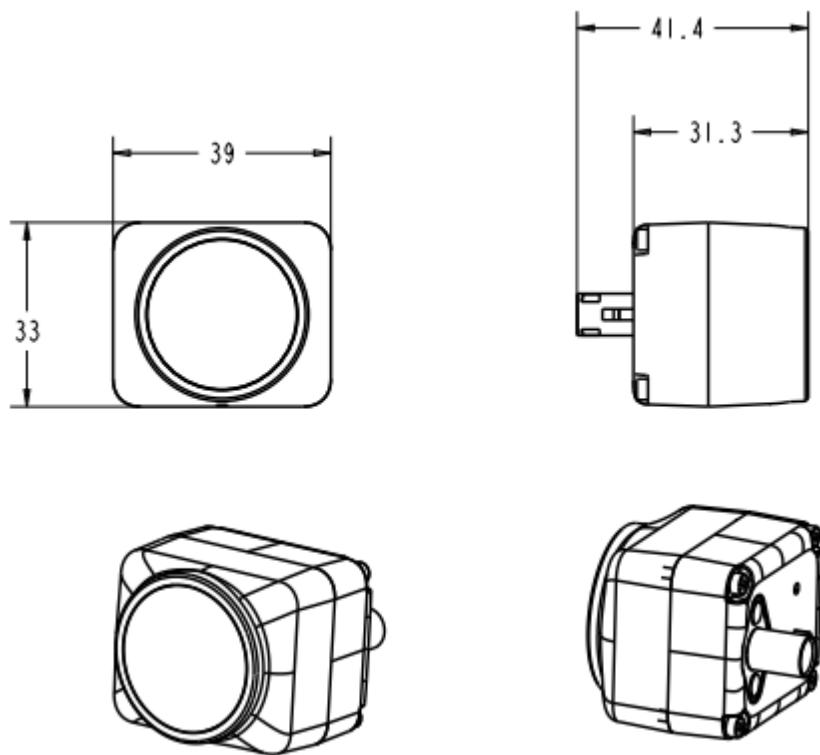

Figure 1-1 Appearance of Pilot256RFF70G
- (1) The Pilot256RFF70G series product consists of a front shell, a rear shell, and a FAKRA connector, as shown in Figure 1-1.